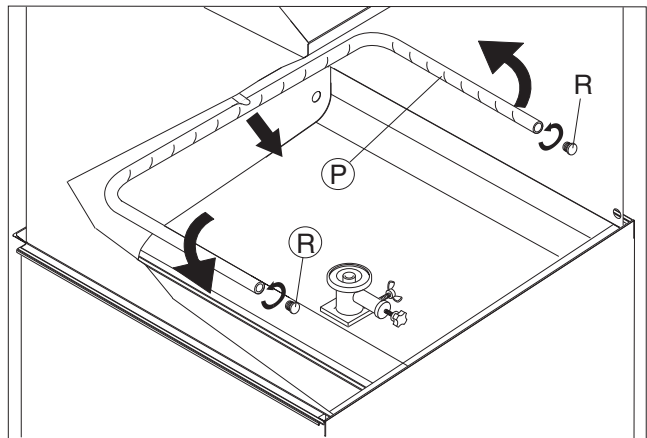

Figure 19
- Remove jet "P" (Figure 19) by turning it clockwise and pulling it out.
- Unscrew plugs "R" (Figure 19) from the side jets.